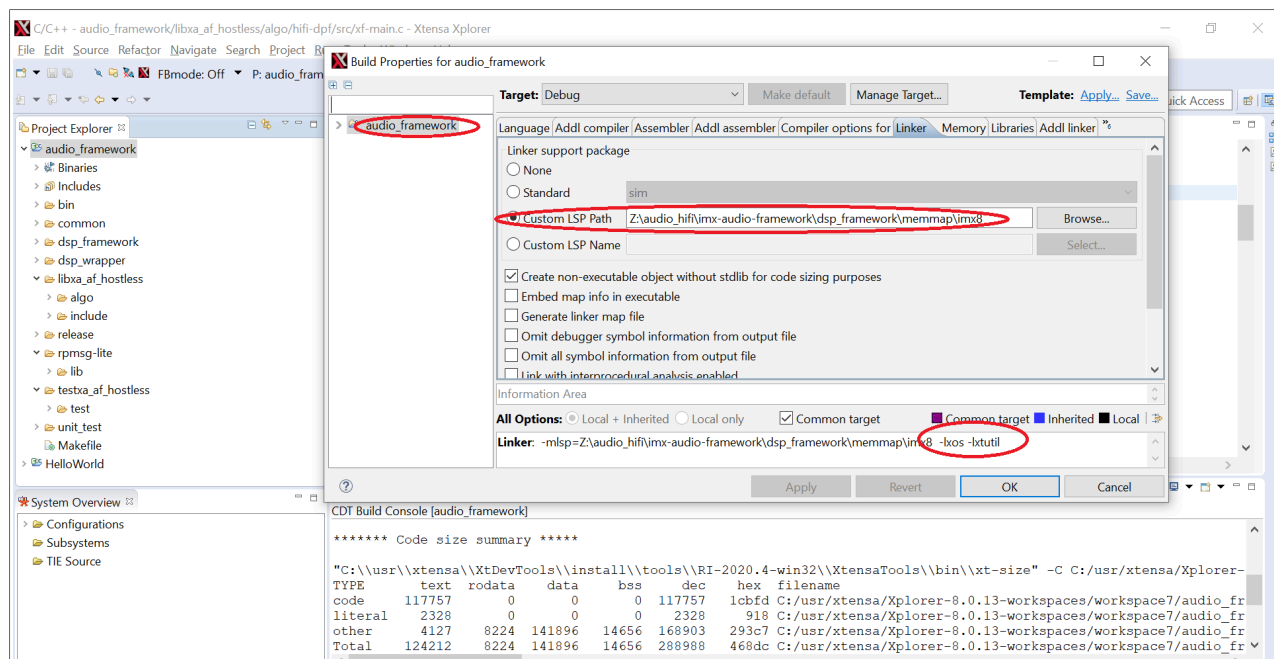

Figure 10. "Linker" option
4. Click the "OK" button to finish this process, as shown in Figure 10. The **-lxs -lxtutil** option is required.